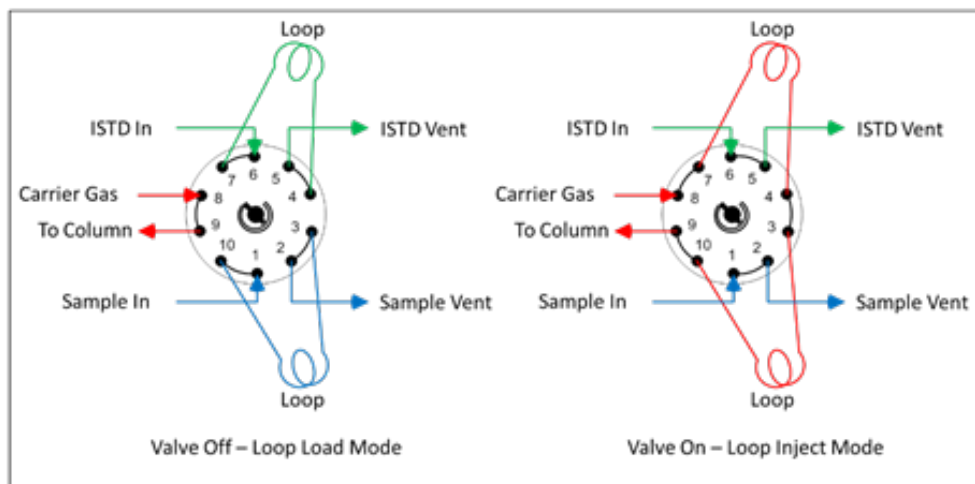

Figure 1. 10-port valve diagram
**Reagents and sample preparation:** Gas standards of phosphine and arsine (balance hydrogen) and hydrogen sulfide and carbonyl sulfide (balance argon) were supplied by Custom Gas Solutions at a nominal value of 10 ppmv. These standards were diluted dynamically using a fixed restrictor based dilution system supplied by Merlin MicroScience (Pasadena, TX). A real world sample containing methane and ethane was supplied by a customer. A Valco (Houston, TX) 10 port gas sampling valve (GSV) was used to simultaneously inject the sample and standard addition as shown (Figure 1). The 10-port GSV allows for a standard addition or 'spike' to determine the actual retention time of analytes in the matrix.